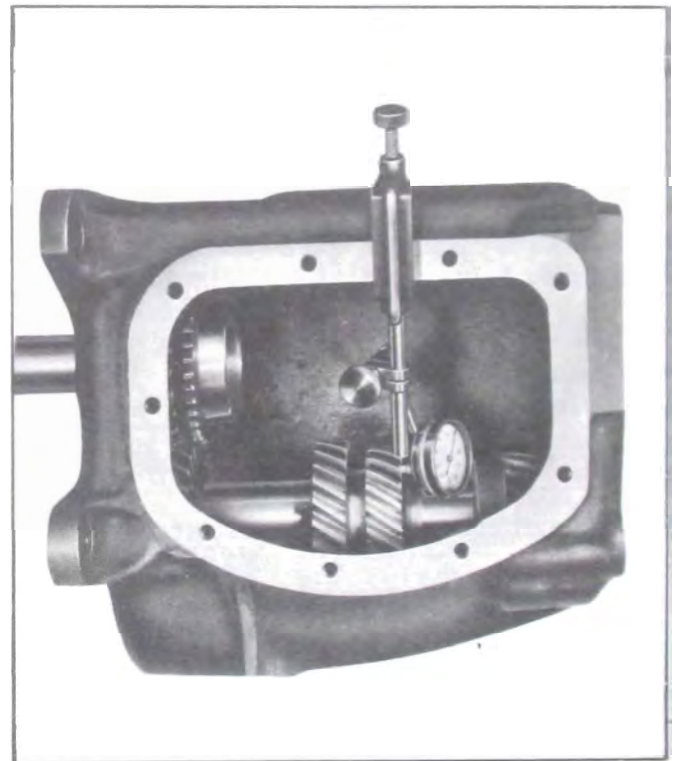

Figure 4-65—Checking Countergear End Play
7. Attach a dial indicator as shown in Fig. 4-65, and check the end play of the countergear. End play must not be more than .025".